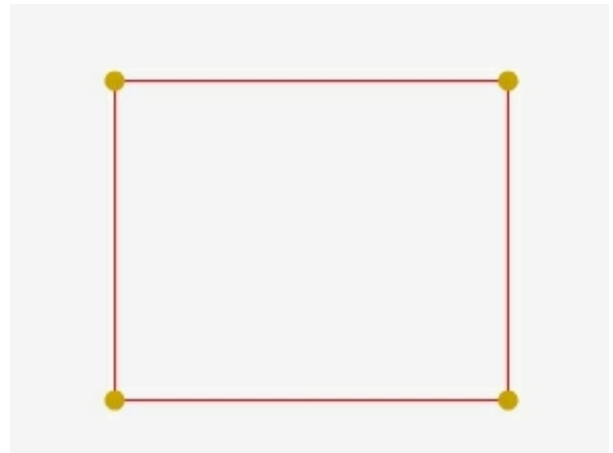

Figure 1
2. **Click the Scale tool** in the Tools group on the Edit tab. The corners of the selected object appear as yellow dots (2D) or yellow balls (3D) - so-called **Scale Indicators** (see Figure 1).
2. **Click "Scale"** in the Edit tab to **start the scale tool**. The corners of the selected object appear as yellow dots (2D) or yellow balls (3D) - so-called **Scale Indicators** (see Figure 1).